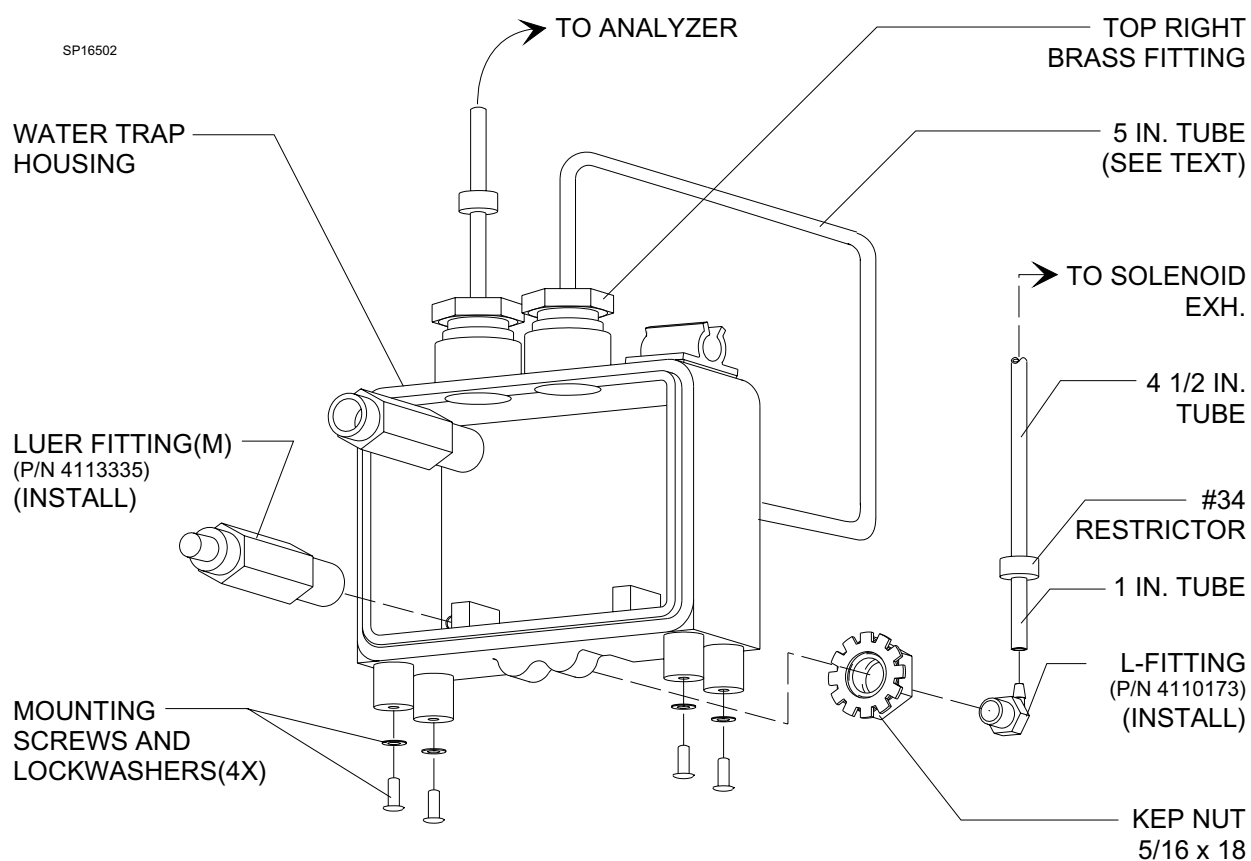

Figure 2: VA3000 WATER TRAP HOUSING ASSEMBLY DETAILS
7. If the housing does have a variable flow restrictor, inspect the tubing between the top right brass fitting (see Figure 2) and the upper L-fitting, and determine whether it has a brass flow restrictor.
12. Install the new Luer (M) fitting (P/N 4113335) in the lower position in the water trap housing.
13. Apply a small amount of Loctite #425 (blue) to the threads of the new L-fitting (P/N 4110173), and thread the fitting into the back of the Luer fitting until snug. Orient the fitting as shown in Figure 2. DO NOT overtighten the fitting.
14. Connect the tubing from the solenoid to the L-fitting as shown in Figure 2.